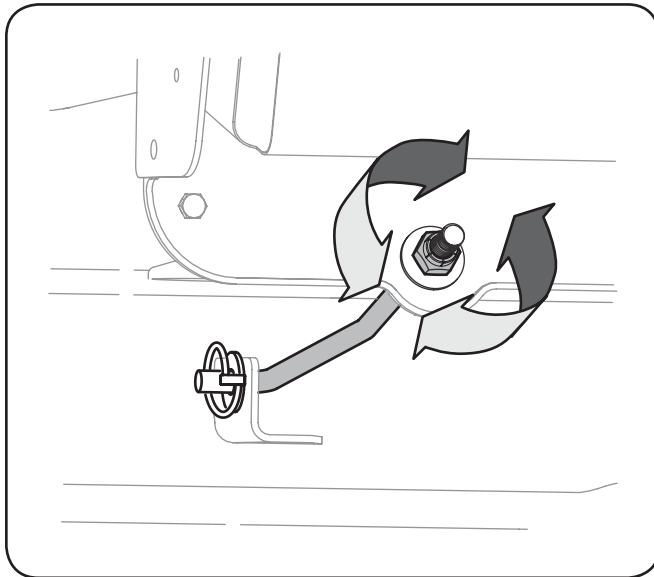

Figure 6-4
1. Loosen (thread outward) the hex lock nut on the end of the deck hanger rod. See Fig. 6-4.
3. To *lower* the front of the deck, loosen (thread outward) the hex nut, away from the front hanger bracket. See Fig. 6-4.